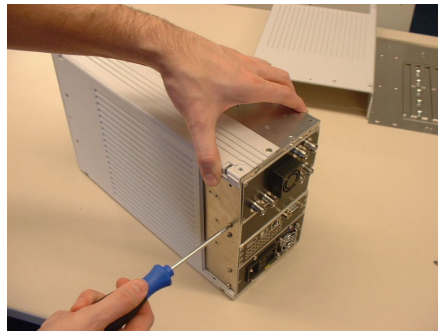

Figure 1-20
5. Undo screws for duoblind, located at bottom of instrument (see Figure 1-20).